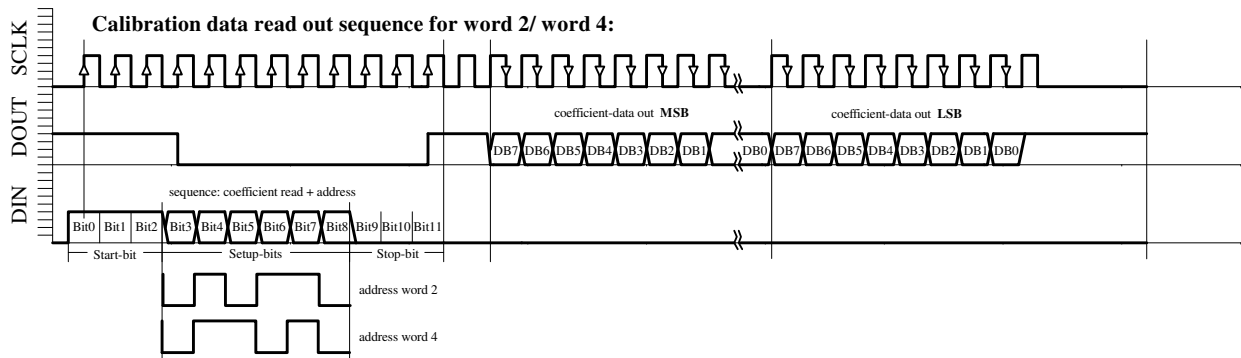

Fig. 6d: W2, W4 READING sequence
- Calibration data read-out sequence for Word 2 (Figure 6d)
- Calibration data read-out sequence for Word 4 (Figure 6d)